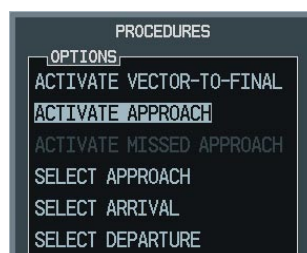

Figure 5-133 Manually Activate Approach
- Turn the large **FMS** Knob to highlight 'ACTIVATE APPROACH' as shown in Figure 5-133.